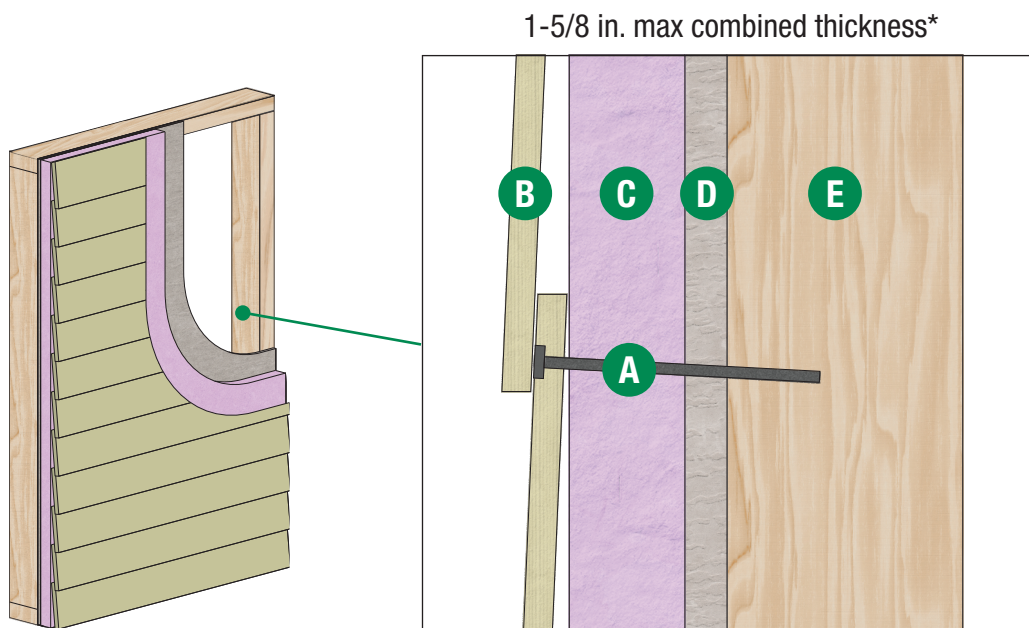

Figure 1: Exterior Wall Assembly for Siding applied directly over 1-5/8 in. non-nailable substrate
***NOTE:** If layer D from Figure 1 is a non-nailable substrate (e.g. gypsum sheathing), the combined thickness of layers C and D must be 1-5/8 in. or less. If greater than 1-5/8 in., see Method 2.